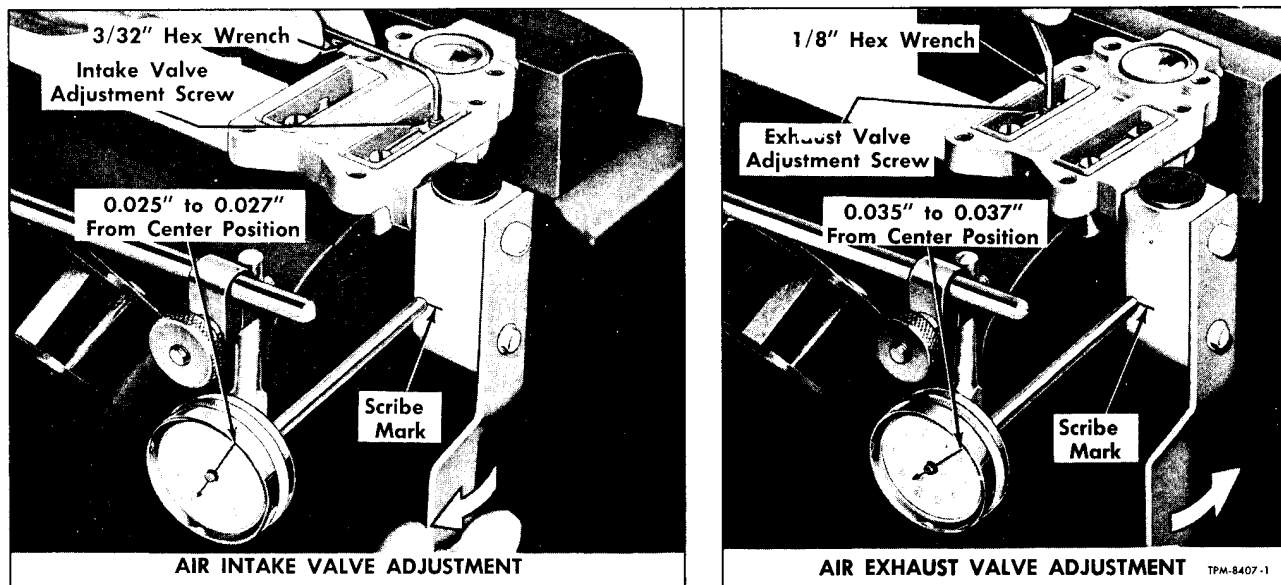

Figure 31—Method of Adjusting Air Valve Lever Gaps
4. Starting at true center position, slowly move lever rearward to where air intake valve just begins to open. Listen for escaping air. Note reading on dial at this point. Reading should be 0.025" to 0.027" from lever center position. Using a 3/32-inch hex wrench, adjust screw on intake valve lever (left view, fig. 31) until correct setting is obtained.
5. Return overtravel lever to center position. Slowly move lever forward to exhaust side and at same time note the vacuum gauge reading. When vacuum just begins to fall off, the exhaust valve has opened. Valve should open when overtravel lever is moved 0.035" to 0.037" from center position. Using a 1/8-inch hex wrench, adjust exhaust valve lever adjustment screw as shown in right view, figure 31 as required.
b. Using a 3/32-inch hex wrench adjust screw on intake valve lever (left view, fig. 31) until specified adjustment is obtained.